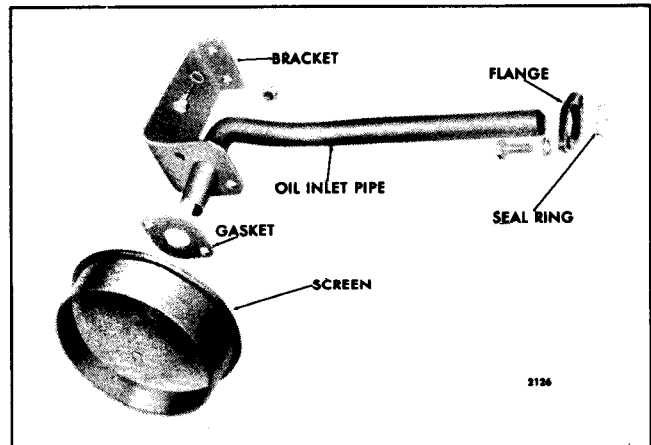

Fig. 9 - Oil Pump Inlet Pipe and Screen Details and Relative Location of Parts (In-Line Engine)
4. Attach the oil inlet screen to the oil inlet pipe support with two lock nuts (6V engine) or two bolts and lock washers (Fig. 9).